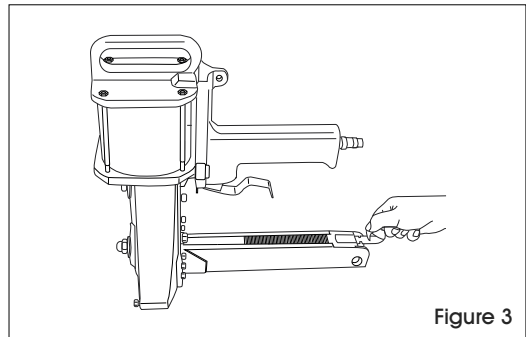

Figure 3
3. Insert 2 sticks of appropriate staples into magazine from back. Slide staples forward to the front of the magazine. (See Figure 3)